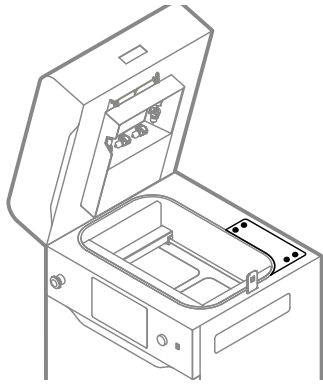

Fig. 13.57 Remove four screws from the access panel.
6. Using a 2 [mm] allen key remove the four screws securing the access panel on the top side of the printer (fig. 13.57).